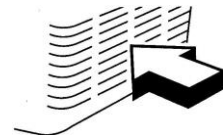

Figure 1
- Position the unit to allow airflow through the front grill (see figure 1).